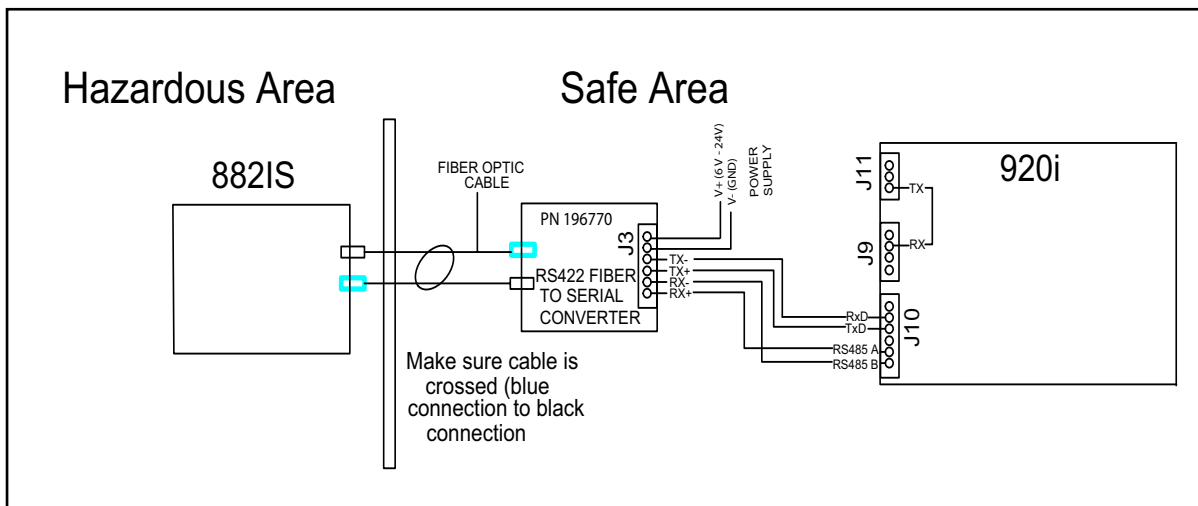

Figure 8-2. 882IS/882IS Plus Remote Setpoints RS-422 Hardware Model Example
- RS-422 fiber to serial converter box (PN 196770) (Figure 8-2 on page 72)